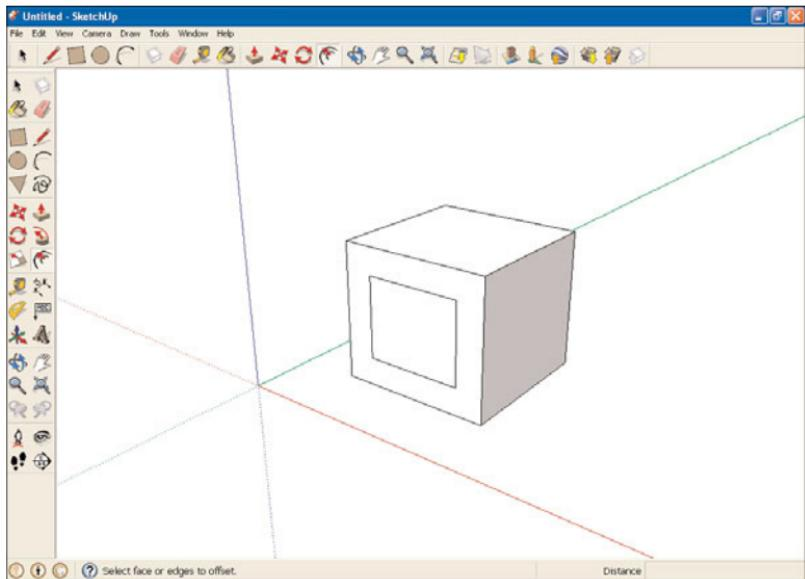

FIGURE 9.10 A measured offset.
7. Press **Enter**. The offset appears, as you see in Figure 9.10.